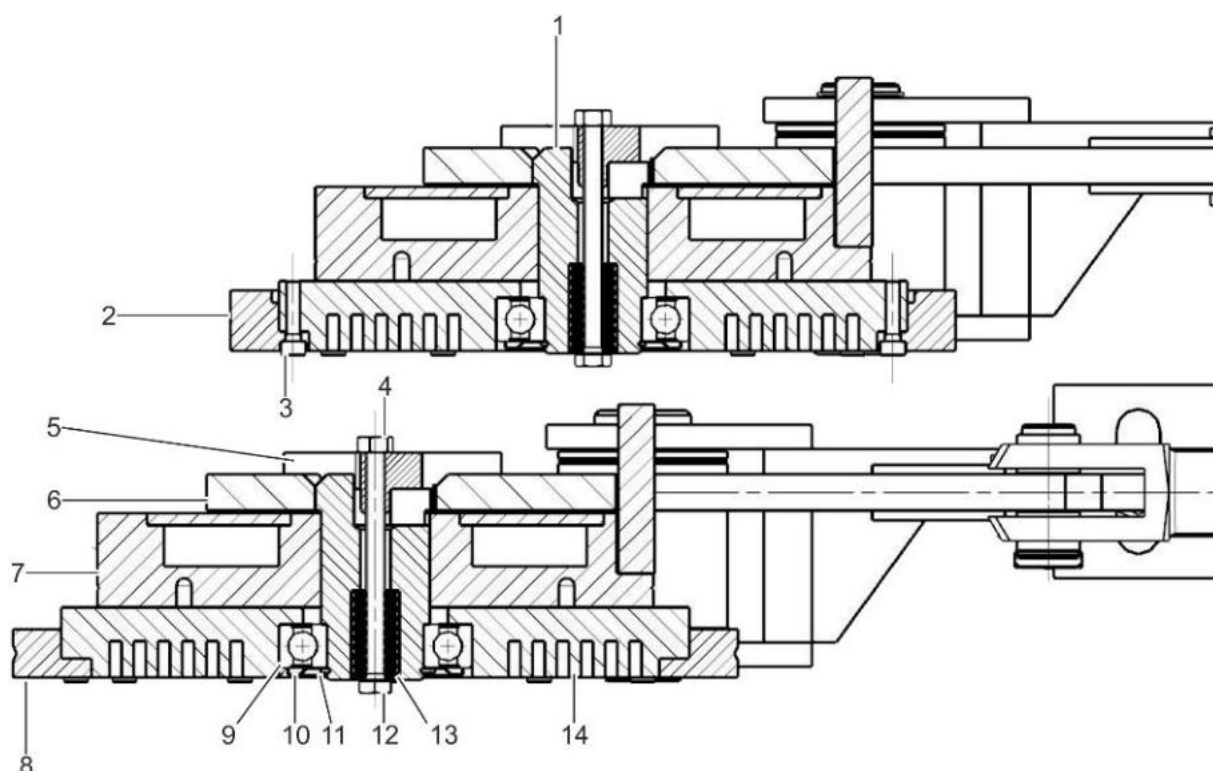
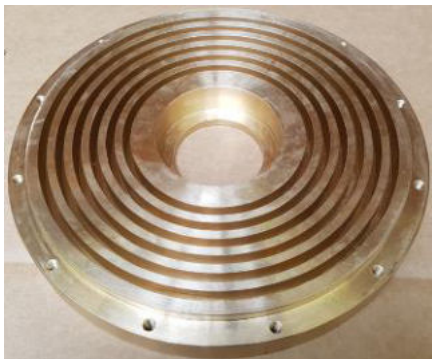

Fig. 95: Set of electrodes
Fig. 97: Base body
2. Loosen screws (Fig. 95/3).
3. Remove wear ring (Fig. 95/2 or/and Fig. 95/8) from the base body (Fig. 95/14).
5. Place the new wear ring on the base body (Fig. 95/14) and check for a snug fit.
6. Screw wear ring (Fig. 95/2 or/and Fig. 95/8) to the base body (Fig. 95/14) with screws (Fig. 95/3).
2. Circlip (Fig. 95/11) and Nilos ring (Fig. 95/10).
3. Remove base body (Fig. 95/14) and wear ring (Fig. 95/2 and/or Fig. 95/8) from the bolt (Fig. 95/1).
4. Remove the current transmission (Fig. 95/7) from the bolt.
6. Put current transmission (Fig. 95/7) onto the bolt (Fig. 95/1).
7. Put on base body (Fig. 95/14) with wear ring (Fig. 95/2 and/or Fig. 95/8) onto the bolt (Fig. 95/1) and secure with circlip (Fig. 95/11) and Nilos ring (Fig. 95/10).
2. Remove wear ring (Fig. 95/2 and/or Fig. 95/8) as described in *section 8.4 "Replacing the wear ring of the welding or contact roller electrode" on page 147* from the base body (Fig. 95/14).
3. Remove circlip (Fig. 95/11) and Nilos ring (Fig. 95/10).
4. Remove base body (Fig. 95/14) from the bolt (Fig. 95/1).
5. Turn the worn surface (Fig. 97) of the base body flat again.
The surface may be turned down by a maximum of 3 mm, otherwise the base body (Fig. 95/14 and Fig. 97) must be replaced.
6. Screw wear ring (Fig. 95/2 and/or Fig. 95/8) to base body (Fig. 95/14) with screws (Fig. 95/3).
7. Re-attach base body (Fig. 95/14) with wear ring (Fig. 95/2 and/or Fig. 95/8) onto the bolt (Fig. 95/1) and secure with circlip (Fig. 95/11) and Nilos ring (Fig. 95/10).
2. Remove circlip (Fig. 95/11) and Nilos ring (Fig. 95/10).
3. Remove base body (Fig. 95/14) from the bolt (Fig. 95/1).
5. Put current supply (Fig. 95/6) onto the bolt (Fig. 95/1).
6. Re-attach base body (Fig. 95/14) onto the bolt (Fig. 95/1) and secure with circlip (Fig. 95/11) and Nilos ring (Fig. 95/10).
1. Remove wear ring (Fig. 95/2 and/or Fig. 95/8) as described in section 8.4 "Replacing the wear ring of the welding or contact roller electrode" on page 147 from the base body (Fig. 95/14).
2. Remove base body (Fig. 95/14) from the bolt (Fig. 95/1).
4. Screw wear ring (Fig. 95/2 and/or Fig. 95/8) to base body (Fig. 95/14) with screws (Fig. 95/3).
5. Re-attach the base body (Fig. 95/14) onto the bolt (Fig. 95/1) and secure with circlip (Fig. 95/11) and Nilos ring (Fig. 95/10).
3. Remove nut (Fig. 95/4) of pressure screw (Fig. 95/12)
4. Unscrew the pressure screw (Fig. 95/12).
5. Replace pressure star (Fig. 95/5) by a new pressure star.
6. Screw in the pressure screw (Fig. 95/12) and tighten until the roller can just be turned with one hand.